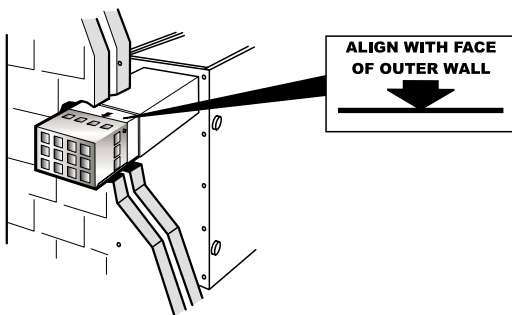

Fig. 26
- Important:** The stainless steel flue terminal must be located correctly to allow access to the terminal fixing screws. Ensure that the marker on the outer wall sleeve is aligned with the face of the outer wall. See Fig. 26.